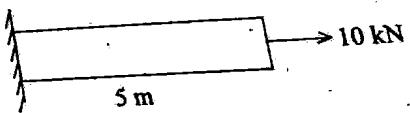

Fig. 12(B)
- (B) Find out the end displacement of the bar shown in Fig. 12(B) using Rayleigh Ritz method. Assume polynomial function for displacement as  $u(x) = a_1 + a_2x$ . Take  $A = 100 \text{ mm}^2$ ,  $E = 2 \times 10^5 \text{ N/mm}^2$ .